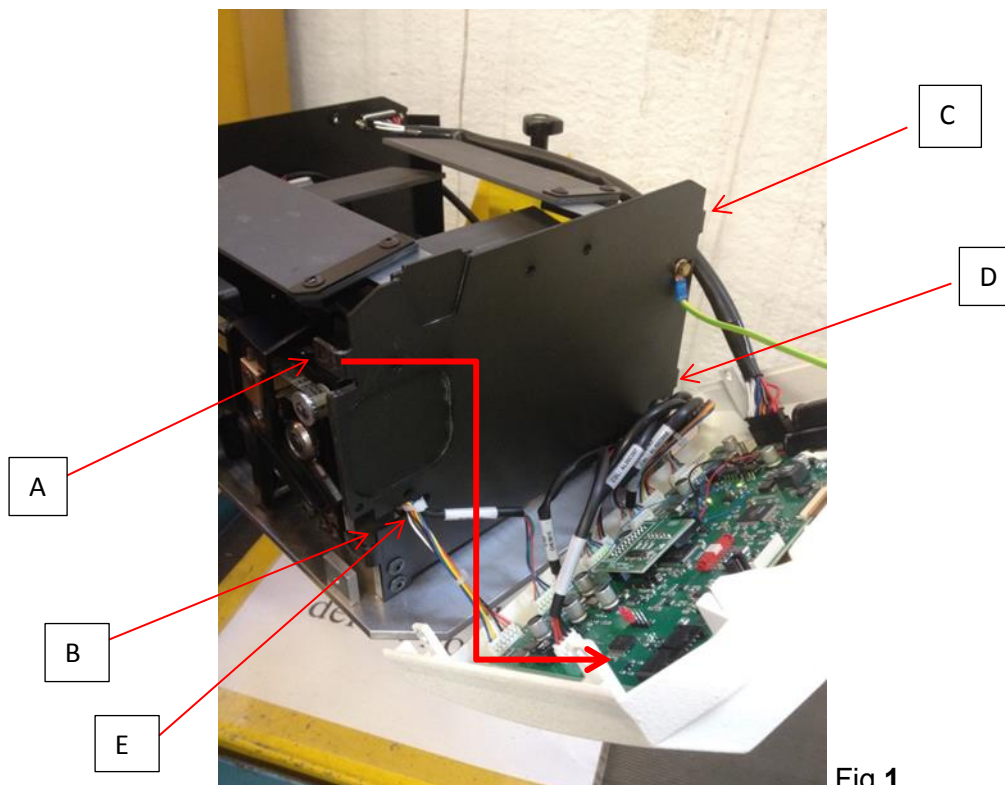

Fig 1
2. Remove the collimator covers and loosen the front cover with the board and connectors by removing the screws **A), B), C), and D)** and cut the plastic cable tie **E)** in fig.1